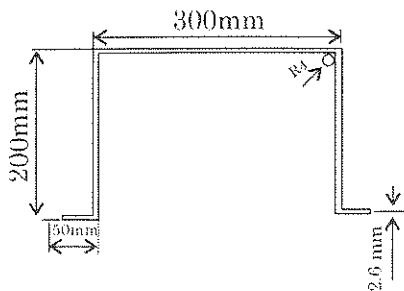

Figure 4
15. (a) Estimate the allowable bending moment of a hat section show in Figure 4, assuming steel grade as F_y is 2400 kgf/sq.cm. The compression flange is adequately laterally restrained.